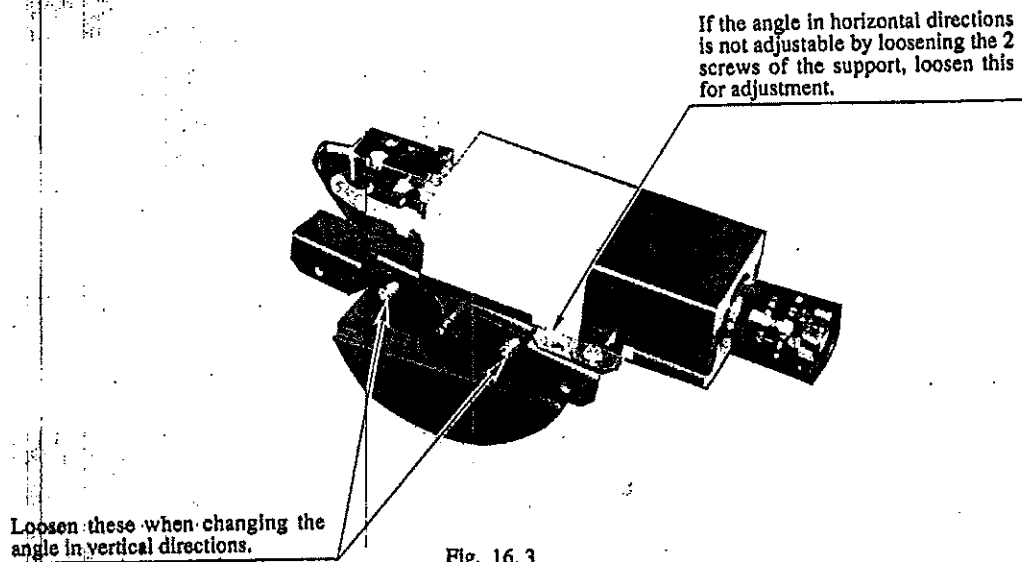

Fig. 16.3
- ⑤ For angle changes in vertical directions, loosen the 4 screws on each side and adjust the direction of the camera (Fig. 16.3). For changing the angle in horizontal directions, normally, loosen the 2 screws of the support and adjust the direction of the camera. When further changing the angle in horizontal directions, adjust the direction of the camera by loosening the 2 screws shown in Fig. 16.3.
- ⑥ After adjustments are finished, retighten the loosened screws and install Cover parts.
- ⑦ Clear the status mentioned in Procedure ① in which images are shown by priority on the 25 inch monitor. When the TEST MODE is used, finish the test mode procedure. When the Control Tower is used, turn the Service Panel's Main SW off.